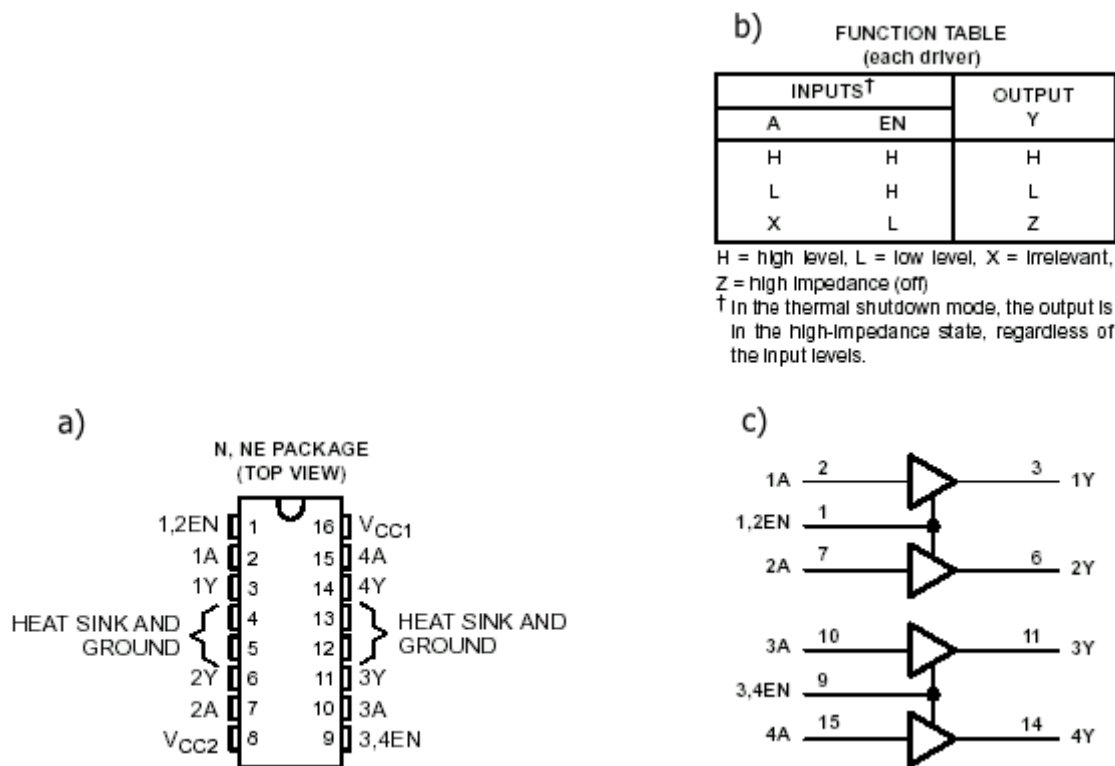

Figure 2. L293(D) a) Pin Layout b) function table c) logical diagram
The pin layout of L293(D) is given in Figure 2. As mentioned in the datasheet (where is the datasheet? hmmm...), L293 is a quadruple half h-drive. By using two half-drives you can implement one full H-bridge. L293 and L293D do have the same footprint, however, L293 has an output current of 1A per channel whereas the limit is 600mA for L293D. The 'D' indicates that *flyback diodes* are included in the package; therefore, you do not need them in your circuit. By the way, what is a flyback diode?